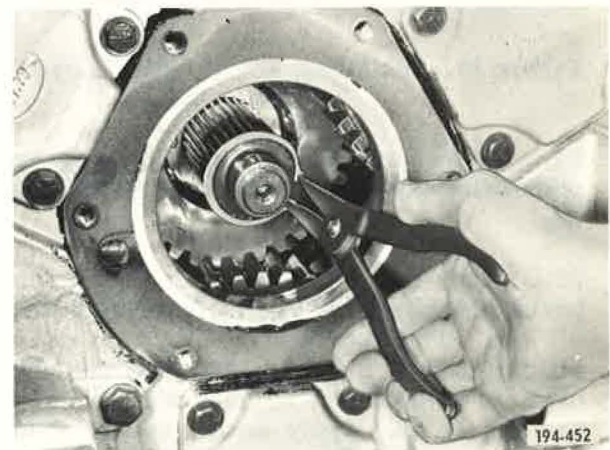

Figure 37. Installing Thrust Washer Retaining Snap Ring
21. Install fourth speed gear selective thrust washer retaining snap ring. See Figure 37.